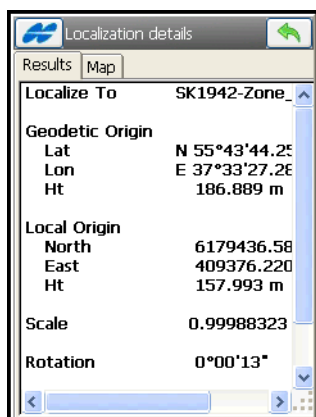

Figure 8-11. Localization Results
The *Localization Details* screen (Figure 8-11 on page 8-14) contains the *Results* and *Map* tabs.
- The *Results* tab (Figure 8-11 on page 8-14) displays calculated parameters of the localization: global coordinates, corresponding local coordinates, scale parameter, the azimuth, and plane slope angles (deflections) corresponding to north and east directions.